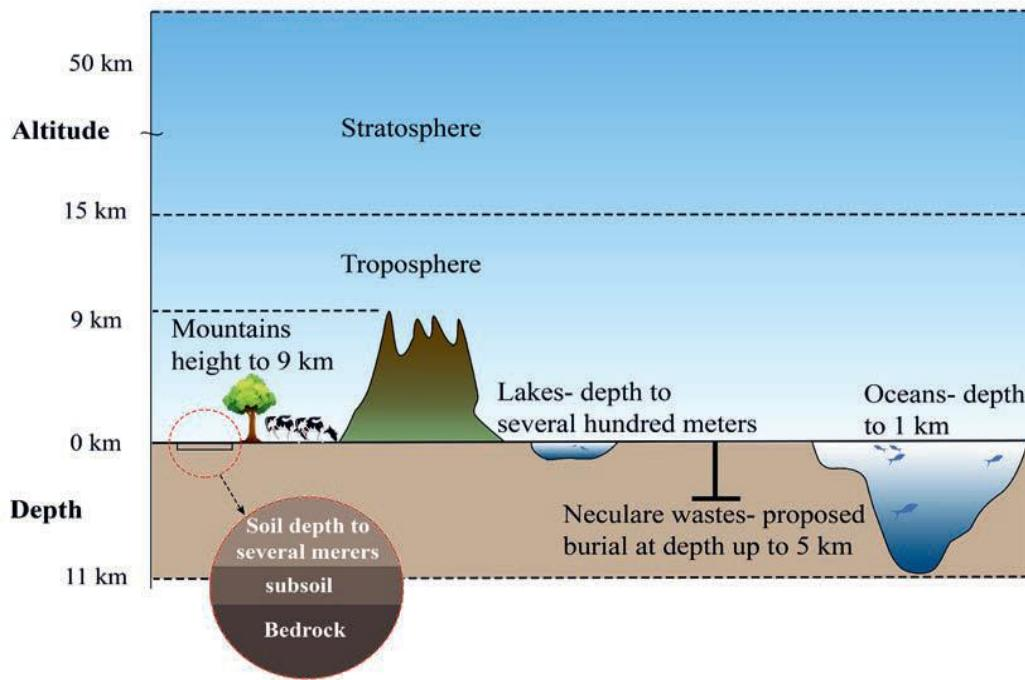

Figure 5.2: Components of the environment (atmosphere, hydrosphere, lithosphere & Biosphere)
- The environment consists of various compartments, including: atmosphere, hydrosphere, lithosphere and biosphere. Figure 5.2 shows the four components of the environment.